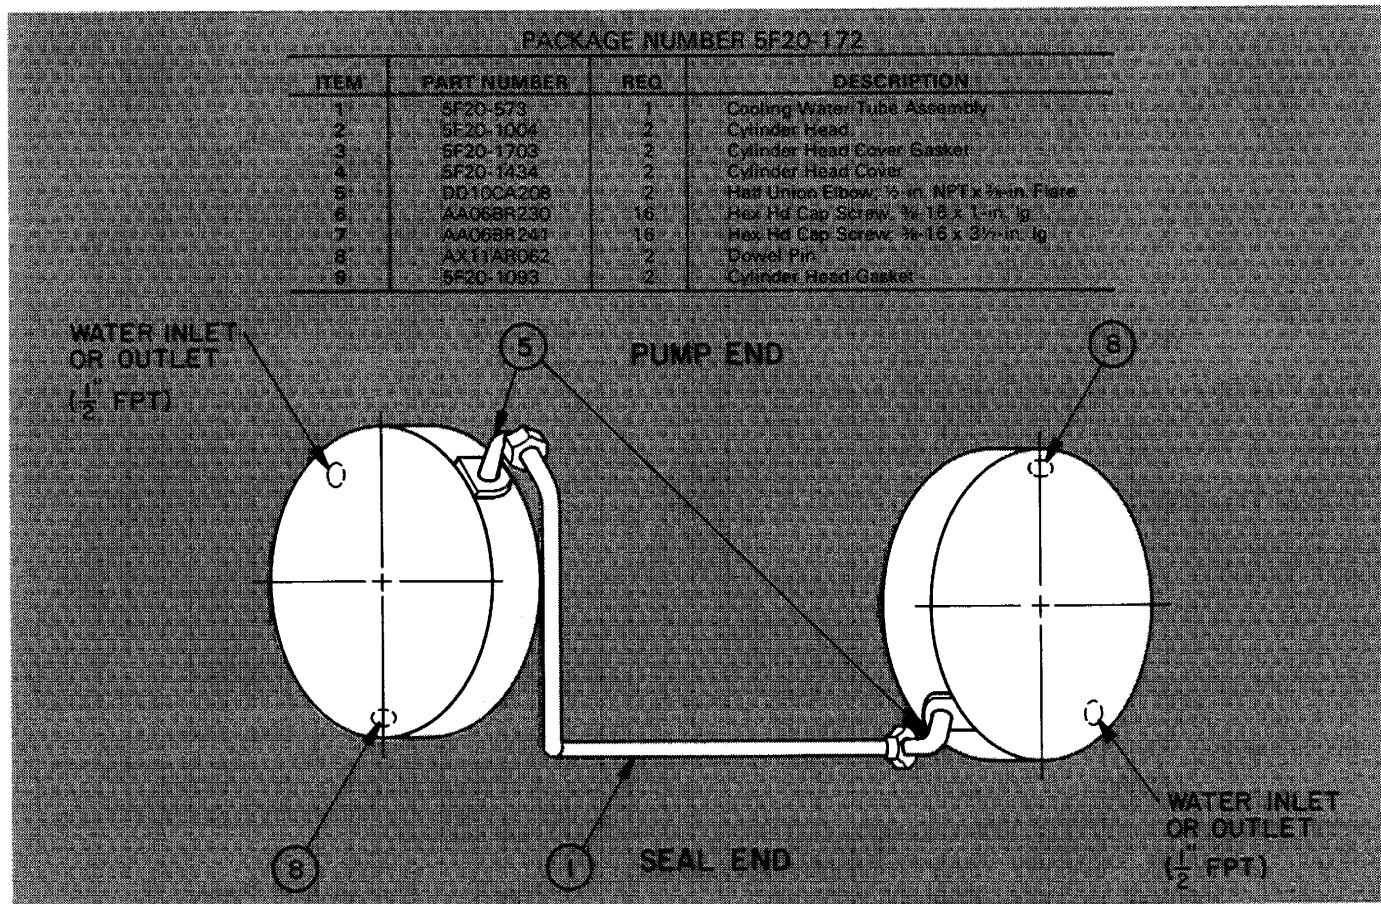

Fig. 2 — Head Piping; Compressor 5F20
On delivery, check the package contents against the parts list (Fig. 2 through 9). If any shipping damage is found, file a claim immediately with the shipping agent.
**Head Piping** — Select from Fig. 2 through 9 the piping for the particular compressor. The components are listed with each piping layout.